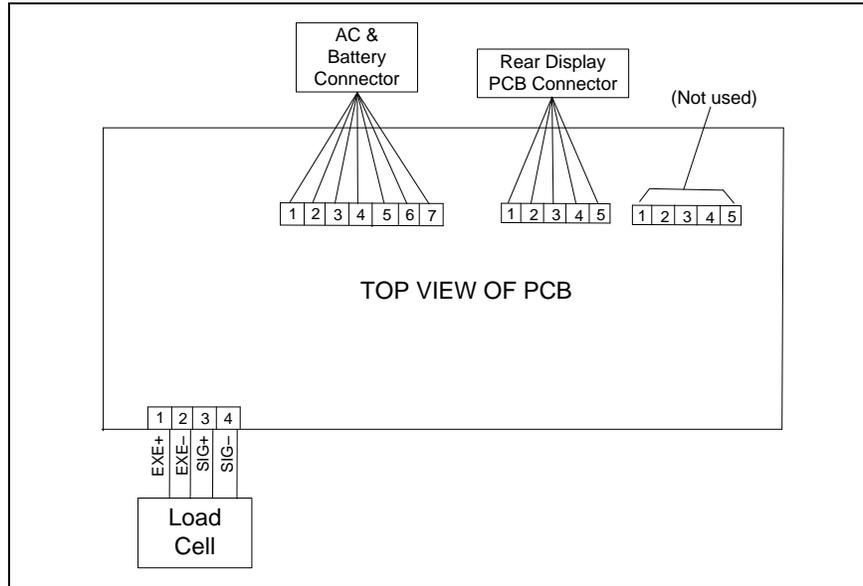

Figure 2-1. Valor 2000 PCB connections
NOTE: The following steps involve power applied to the scale. Load Cell solder contacts can be used as measuring points. See Figure 2-1.
3. Using a DVM, measure the excitation voltage (EXE+ and EXE– in Figure 2-1.) The reading should be 5 volts dc. This is the excitation voltage for the Load Cell and is regulated. If the voltage is lower, replace the PCB. (See Section 3.4.) Then perform Operational Tests. (See Chapter 4.)
4. Measure incoming power from the AC Adapter Connector shown in Figure 2-1. The voltage should read between 9 and 14 volts dc with power off and above 9 Volts dc with power on.
3. With the Simulator set to zero, solder its cable leads to their counterparts on the PCB, using the Load Cell Cable solder points on the PCB. (See Figure 2-1.).